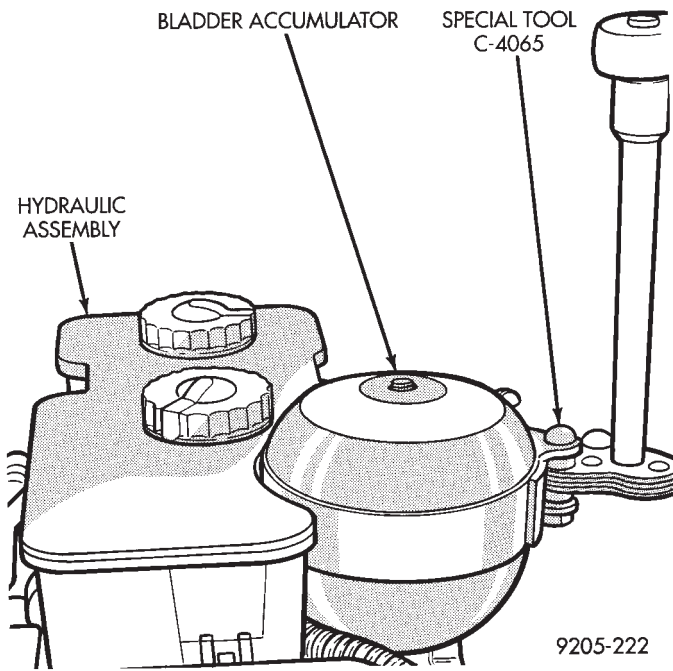
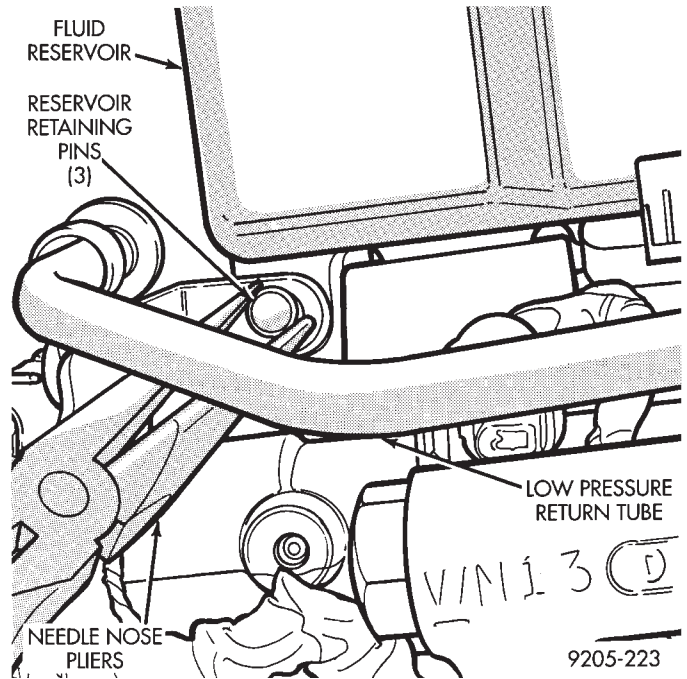
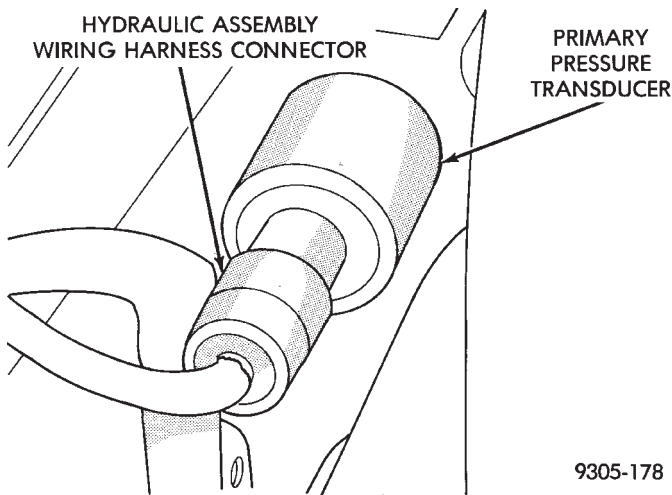

Fig. 6 Removing Bladder Accumulator
Fig. 8 Reservoir Retaining Pin Removal
Fig. 10 Wiring Harness Connection To Primary Pressure Transducer
(1) Fully de-pressurize the hydraulic accumulator by pumping brake pedal a minimum of 40 times. Use procedure described in De-Pressurizing Hydraulic Accumulator listed earlier in this section.
(2) Remove as much brake fluid as possible from the brake fluid reservoir, using a syringe or equivalent method.
(3) Using oil filter band wrench, Special Tool C-4065 or equivalent, (Fig. 6) loosen bladder accumulator. Then remove bladder accumulator and brake fluid spray shield from hydraulic assembly.
(5) Using needle nose pliers, remove the 3 fluid reservoir retaining pins from the hydraulic assembly (Fig. 8). Compress barb on opposite side of retaining pin, to prevent pin from breaking.
(7) Remove brake fluid level sensor from reservoir and remove fluid reservoir from vehicle.
(8) Remove hydraulic assembly wiring harness connector from the primary pressure transducer (Fig. 10).
(1) Install primary pressure transducer into hydraulic assembly by hand, until O-ring is fully seated into hydraulic assembly. Then torque primary pressure transducer, into hydraulic assembly, using Socket, Special Tool 6684, to 12 N•m (106 in. lbs.).
(2) Connect vehicle wiring harness connector, onto primary pressure transducer (Fig. 10). Be sure latch on vehicle wiring harness connector is fully engaged with locking tab on primary pressure transducer.
(3) Using fingers, remove the 3 reservoir sealing grommets from hydraulic assembly or reservoir and discard. **Sealing grommets must not be reused, when brake fluid reservoir is installed back on hydraulic assembly.**
(4) Thoroughly lubricate new reservoir sealing grommets, using fresh clean brake fluid, and install on fluid reservoir outlet ports.
(5) Install brake fluid level switch into brake fluid reservoir.
(6) Press brake fluid reservoir into hydraulic assembly **by hand**, using a rocking motion to help seat fluid reservoir into hydraulic assembly. Be sure that sealing grommets are fully seated into the hydraulic assembly. **Do not attempt to pound fluid reservoir into hydraulic assembly using a hammer.**
(7) Using needle nose pliers, install the 3 brake fluid reservoir to hydraulic assembly retaining pins (Fig. 8). **Be sure retaining pins are fully installed with barbs extending out past reservoir on opposite side.**
(8) Install high pressure hose banjo fitting onto hydraulic assembly and install banjo fitting attaching bolt. Torque banjo fitting to hydraulic assembly banjo bolt to 13 N•m (10 ft. lbs.).
(9) Install brake fluid spray shield onto hydraulic assembly. Install bladder accumulator into hydraulic assembly by hand (use care not to cross thread) until O-ring seal is fully seated into hydraulic assembly.
(10) Using Oil Filter Band Wrench, Special Tool C-4065 or equivalent, (Fig. 6) torque bladder accumulator to 48 N•m (35 ft. lbs.).
(11) Fill hydraulic assembly fluid reservoir to the top of the screen on the filter/trainer. Use only fresh clean brake fluid conforming to DOT 3 requirements, such as Mopar® or equivalent.
(12) Bleed the brake hydraulic system using procedure shown in Bleeding Brake System in this section of the service manual.